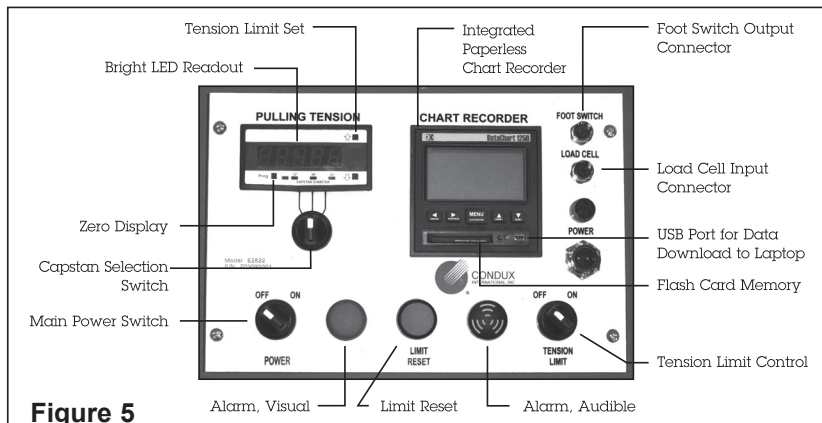

Figure 5
1. Electronic Control Box Panel Switches (Figure 5)
1. Turn the power switch on the Electronic Control Box to the "ON" position (See Figure 5). Be sure that the sensor cords are properly connected before turning on power.
3. **Set the cable Tension Limit.** Press the "Prog" Button and ▼ button simultaneously. (See Figure 5) SP-1 will appear on the on the LED Screen. The screen will alternate between SP-1 and the current tension limit. Press the ▲ and ▼ buttons to increase or decrease the tension limit. Once the desired tension limit is set, press "Prog" to save the set point.
5. **Alarms:** When Tension Limiter switch is in the "OFF" position the audio alarm will sound and the light will come on when the tension limit is reached. When the Tension Limiter switch is in the "ON" position the puller will also stop pulling when the tension limit is reached (See Figure 5)